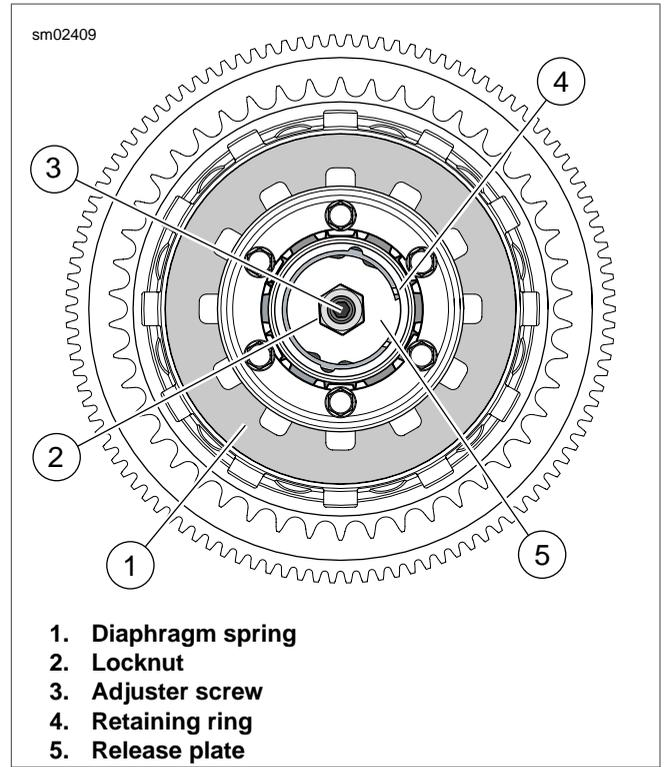

Figure 6-13. Clutch
- See Figure 6-13. Install release plate (5) with locknut (2) and adjuster screw (3) into clutch hub bore. The word "OUT" stamped on the release plate should face outward.